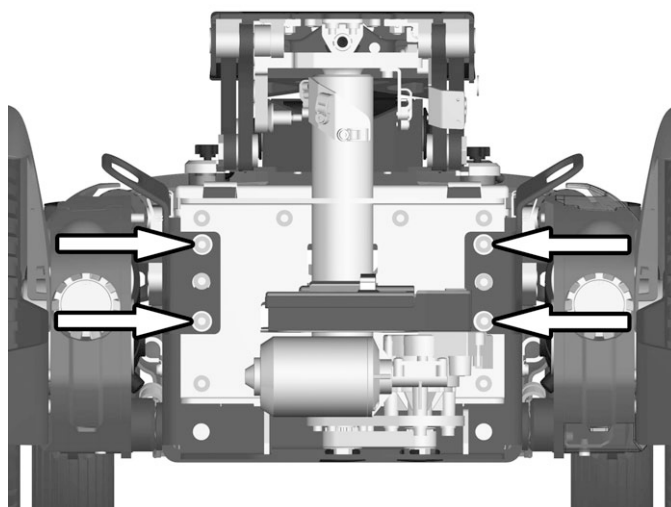

Figure 97. The front transport eyes, are attached with two screws each.
3. Refit the front transport eyes, they are attached with two screws each. Use a torque wrench to tighten the screws. **Tightening torque: 24 Nm / 17.7 Ft/lbs.** See fig. 97.